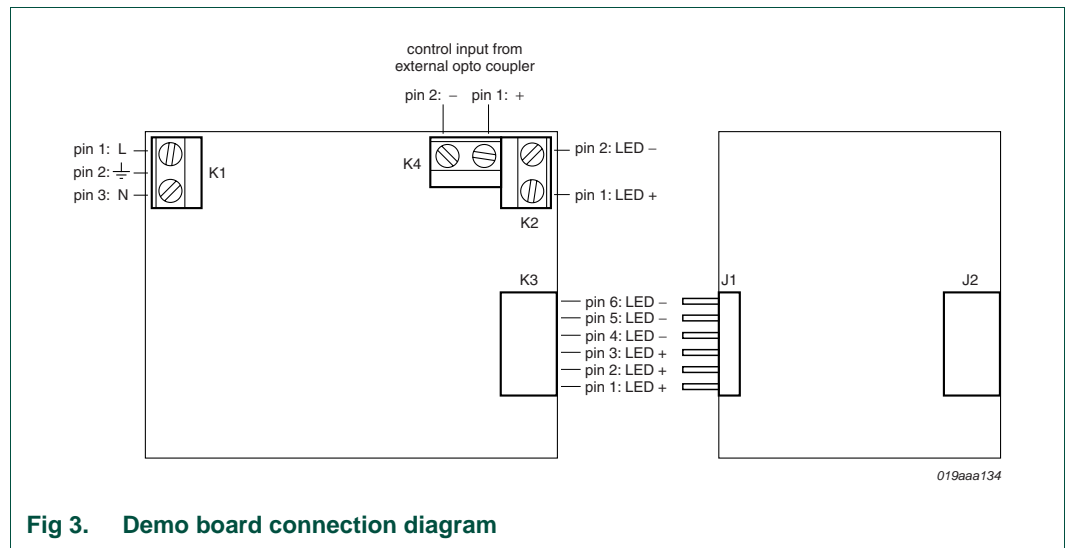

Fig 3. Demo board connection diagram
- Connect a user-defined LED (string) to the connector K2 as shown in Figure 3. Make sure that the anode of the LED (string) is connected to + (bottom side of this connector).